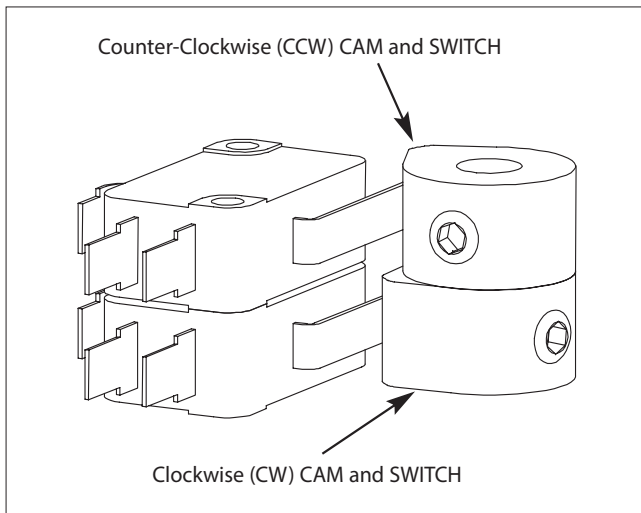

Figure 4.
1. Loosen the set screw in the cam using a 1/16" hex wrench. The bottom cam controls the clockwise end-of-travel, and the second cam, (from the bottom) controls the counter-clockwise end-of-travel (**See Figure 4**).